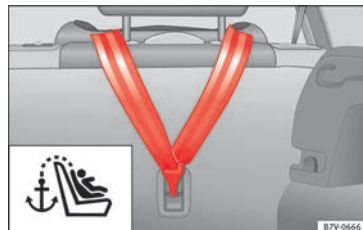

Fig. 38 Upper retaining strap hooked in the luggage compartment
- Hook the upper retaining strap to the corresponding retaining ring (for Top Tether) on the back of the seat backrest on the rear seat » » **Fig. 38**.